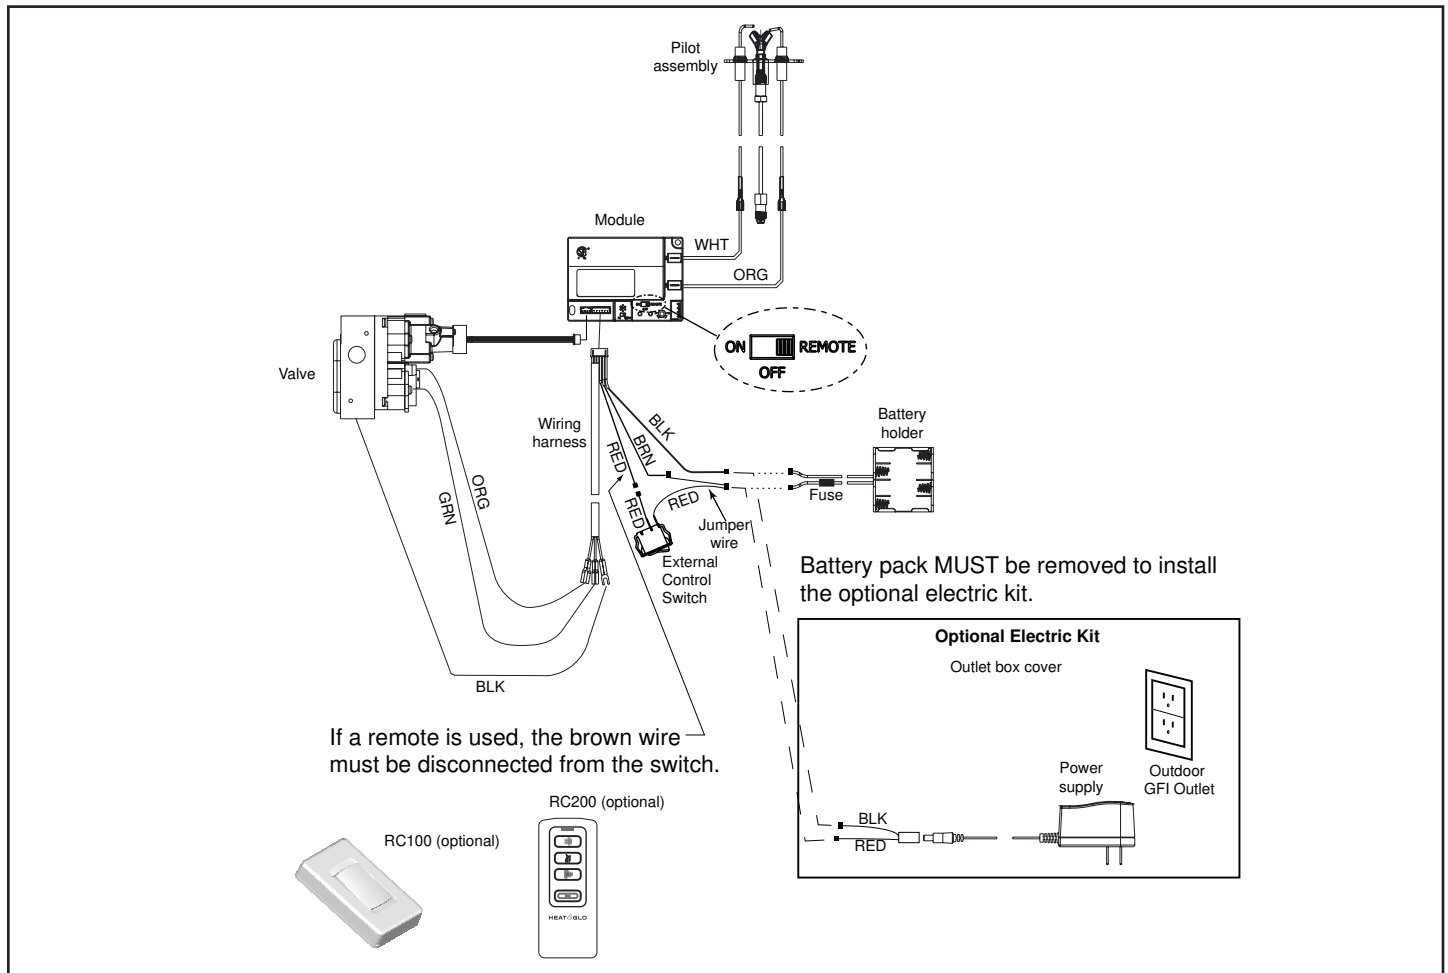

Figure 6.1 Intermittent Pilot Ignition (IPI) Wiring Diagram
- This appliance is supplied with a battery pack which is located in the control box. A wiring diagram is shown in Figure 6.1.
1. The control module has an ON/OFF/REMOTE selector switch that must be set. See Figure 6.1 and 6.2.
- • Disconnect the battery holder wires from the red and black wires of the wiring harness from the switch and module. Connect the red and black wires of the wiring assembly included with the electric kit to the red and black wires to the switch and module. Plug the power supply wire into the wire assembly and then into the outlet. Refer to Figure 6.1.